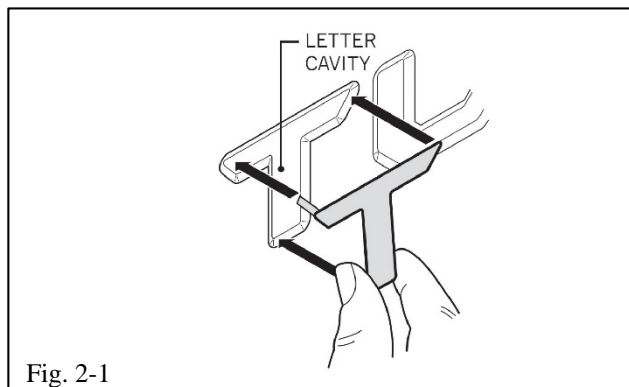

Fig. 2-1
- (a) Center the letter T inside of the corresponding cavity in the rear tailgate to confirm fit (Fig. 2-1).